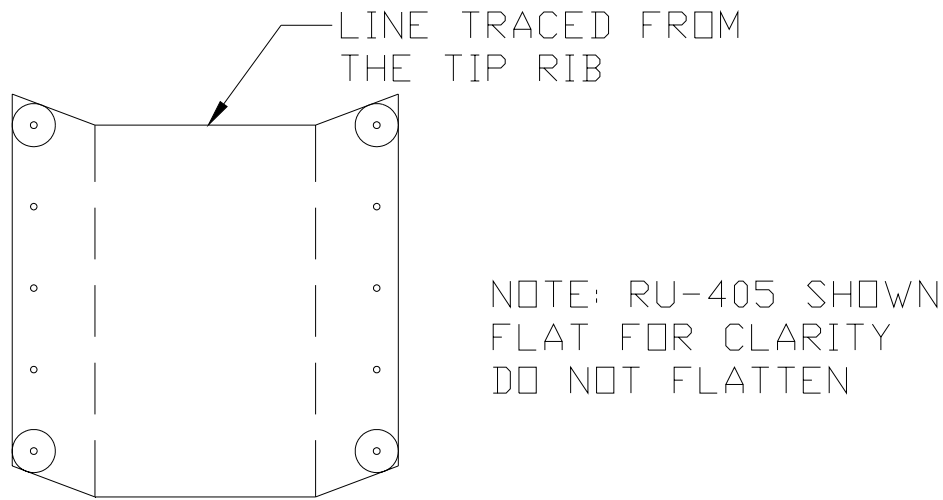

Figure 5.3.7
- 10) Mark the Leading Edge Skin for trimming (use Tip Ribs for a guide). Remove the skin and trim. Use a circle template to mark out for the corner radius. Figure 5.3.7.